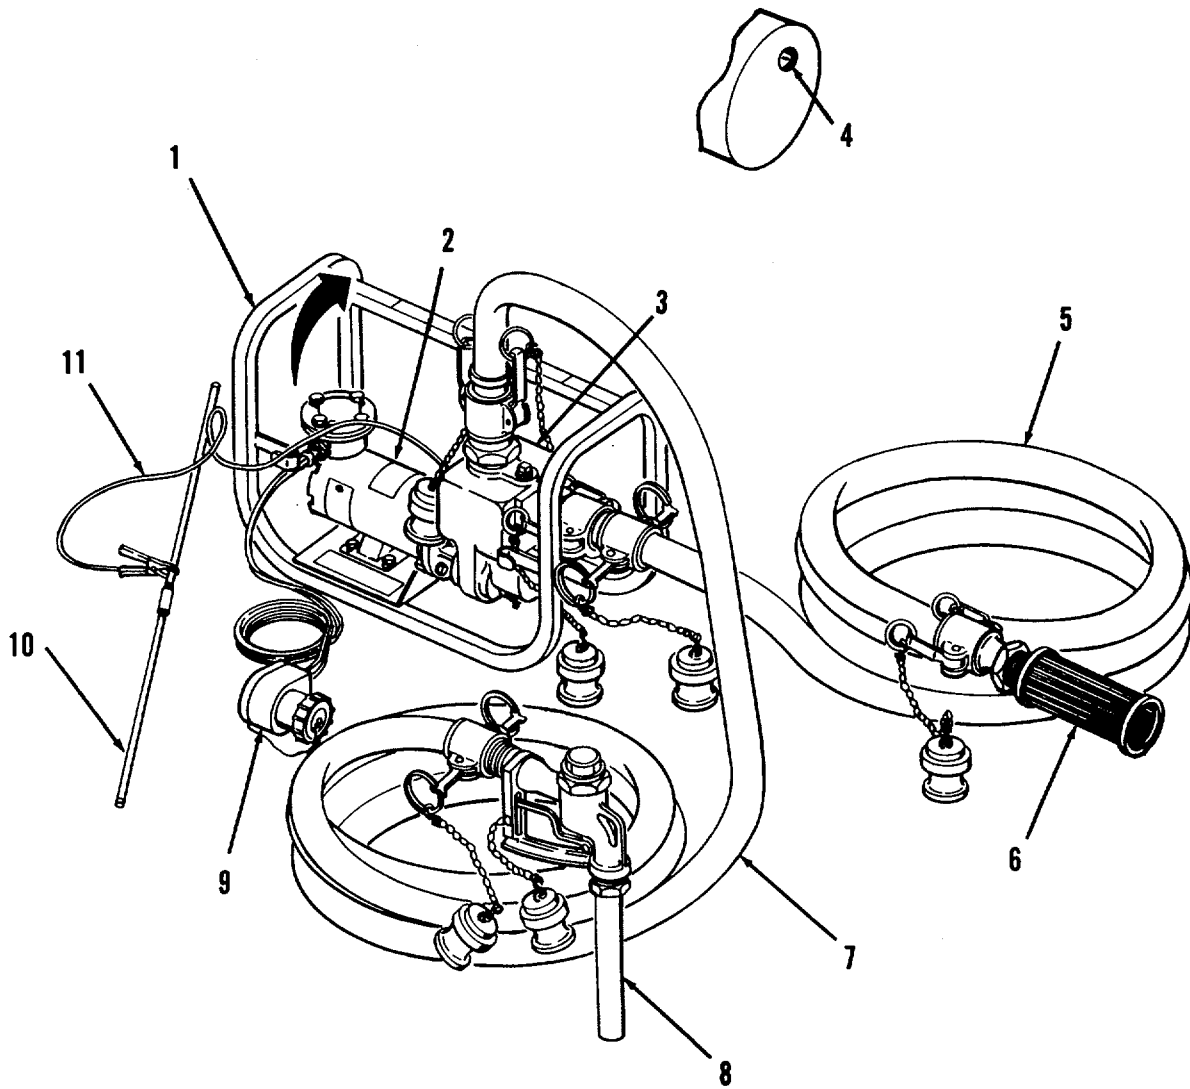

Figure 1-2. Location of Major Components.
**1.13. LOCATION AND DESCRIPTION OF MAJOR COMPONENTS.** The following major components of the pumping unit are described below and are located as shown on FIGURE 1-2.
**1.1 5. THEORY OF OPERATIONS.** The pumping unit is a self contained, transportable, electric motor driven centrifugal pump unit designed for pumping liquid fuel. It consists of a self-priming pump, a 24 volt direct current electric motor, and a frame for mounting the pump and motor together for easier transportability. The pumping unit performs its pumping operations in the following manner (Refer to Figure 1-2).